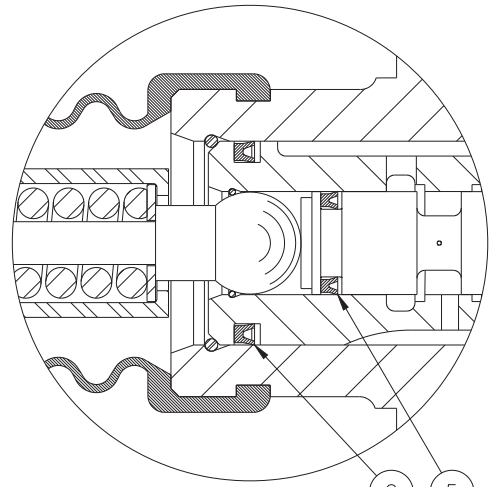

Figure 1a
1. Install new cup (9) on sleeve (10) and new cup (5) on spool (6). Note direction of cups (5 & 9). See Figure 1a.
2. Install spring (7) and spool (6) in sleeve (10). Note direction of spool (6).
3. Install push rod (4) and new retaining ring (3) in sleeve (10). **NOTE: Be careful not to scratch or mar sleeve (10) bore.**
4. Install new o-ring (12) on plug (11). Install plug (11) in housing (13) and torque 10.9-13.6 N·m (8-10 lb·ft).
5. Carefully install sleeve (10) into housing (13). Be sure groove in sleeve (10) engages plug (11). Install retaining ring (8) in housing (13).
6. Install new piston ring (15) on piston (16) and install piston (16) in housing (13).
7. Install new o-ring (18) and new seal (17) on piston assembly (19).
8. Install new check valve (21), spring (20), and new piston assembly (19) in end cap (22). **NOTE: Be sure check valve (21) is properly positioned in end cap (22). Not all models use check valve (21). See TABLE 1.**
9. Install new o-ring (23) on plug (24). Install plug (24) in end cap (22) and torque 10.9-13.6 N·m (8-10 lb·ft).
10. Place new gasket (14) on mounting face of end cap (22). Assemble end cap (22) and components therein to housing (13) using lock washers (25) and cap screws (26). Torque cap screws (26) 27.1-29.8 N·m (20-22 lb·ft).
11. Install pressure regulating spring assembly (2) on push rod (4). Install new boot (1) into groove on housing (13) and groove on pressure regulating spring assembly (2).